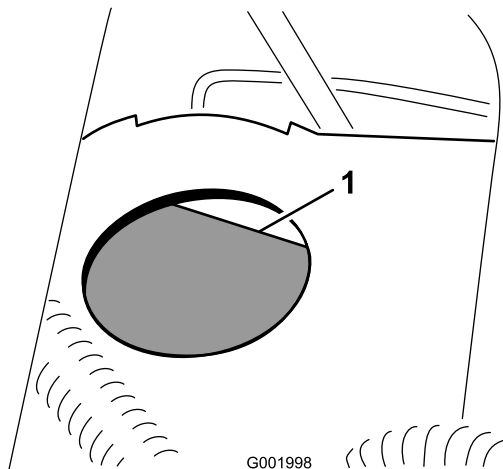

Figure 59
2. The fluid level should be up to the Full line on the reservoir (Figure 59).